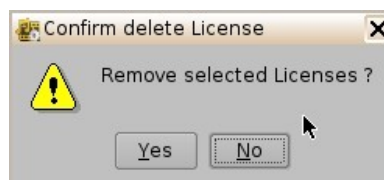

Figure 85: Confirmation Window
- Click on Yes to confirm the deletion (Figure 85).